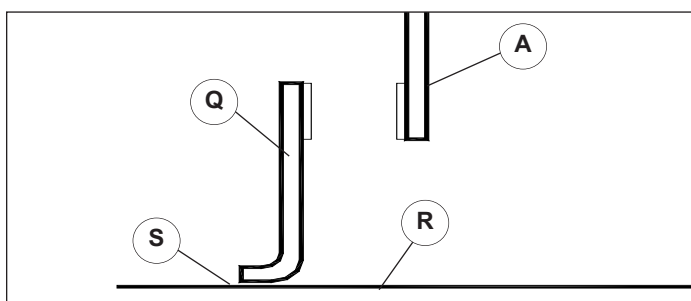

Figure 6.1
- The floor sweep (Q) provided is 8" [203] high and the same length as the curtain. Sweep should curl on floor (S).
- Trim the sweep for height and length as necessary, depending on the grade of the floor. The sweep should be left as high as possible, as it will lift up off the floor (R) during windy conditions, **Figure 6.1**.